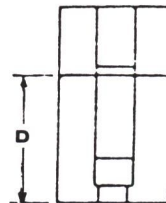

Figure 5-1. PA Plate Cavity Shorting Plane
- c. Adjust the plate cavity shorting plane (Figure 4-2) to the desired frequency in accordance with the graph in Figure 5-1.